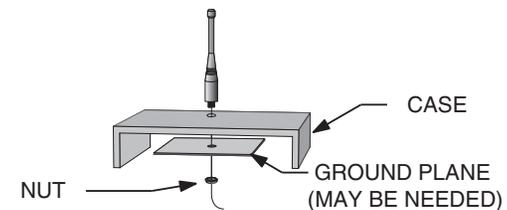

Figure 43: Remote Ground Plane
6. In some applications, it is advantageous to place the module and antenna away from the main equipment (Figure 43). This can avoid interference problems and allows the antenna to be oriented for optimum performance. Always use 50Ω coax, like RG-174, for the remote feed.